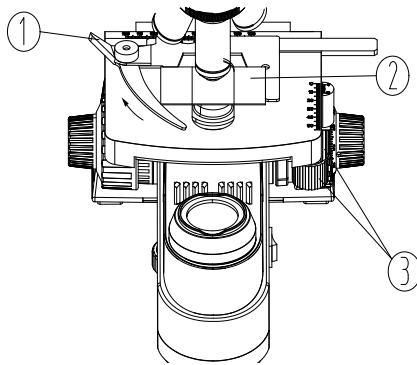

Fig.8
2. Loosen the wrench ①, and clamp the slide ② by the clips while the cover glass faces up (see Fig. 8).
3. Rotate the X and Y-axis knob ③. Move the specimen to the center (alignment with the center of the objective).